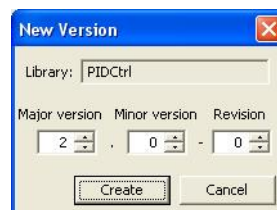

Figure 346. New Version Dialog Box
- Select the predecessor object (below the Library object) and open the Library Version Definition aspect. Click **New Version** under the General tab. A New Version dialog box will appear where you confirm the new version number. See Figure 346. Click **Create**.